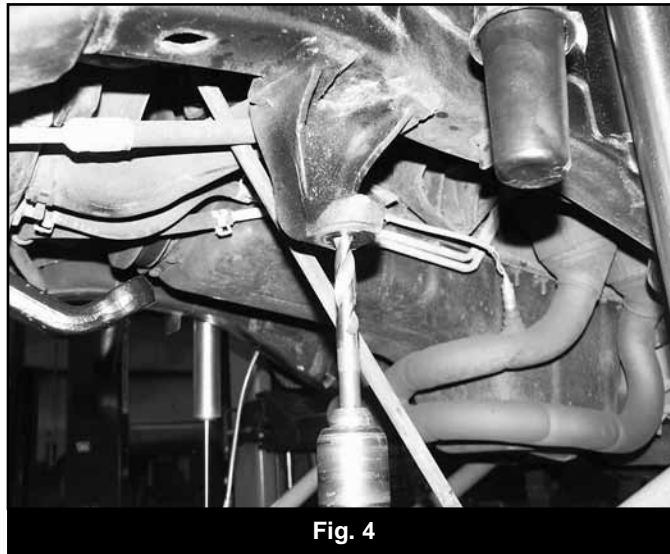

Fig. 4
11. Using a 9/16" bit, drill out the tapered hole in the factory track bar mount on the driver's side frame. (Fig 4)